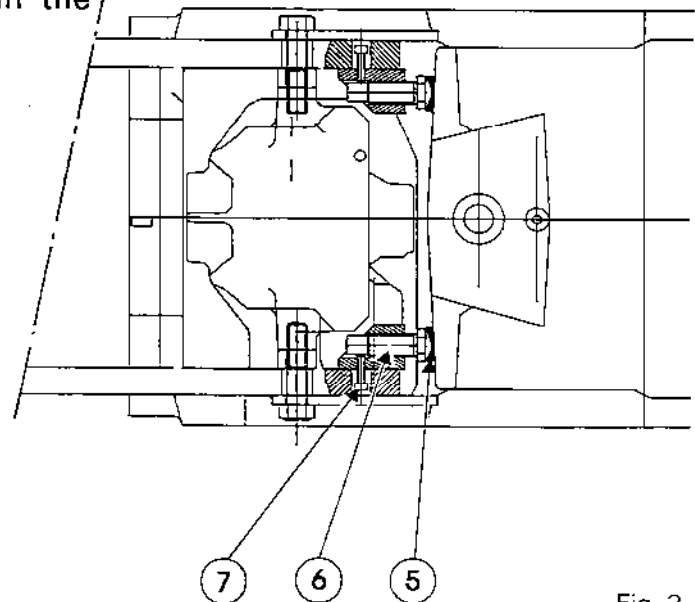

Fig. 3
22. Carry out operation 16 in reverse order. Tighten the bolts and nuts to the torque values specified in Fig. 3 and 4.
For fitting and tightening torques, see Fig. 3.